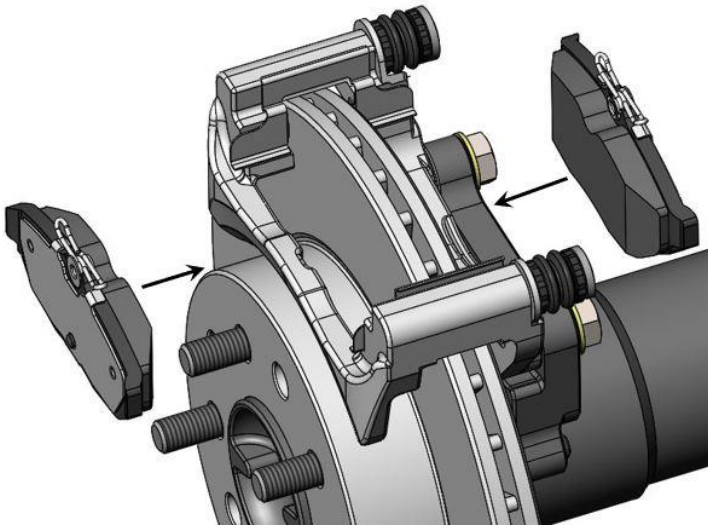
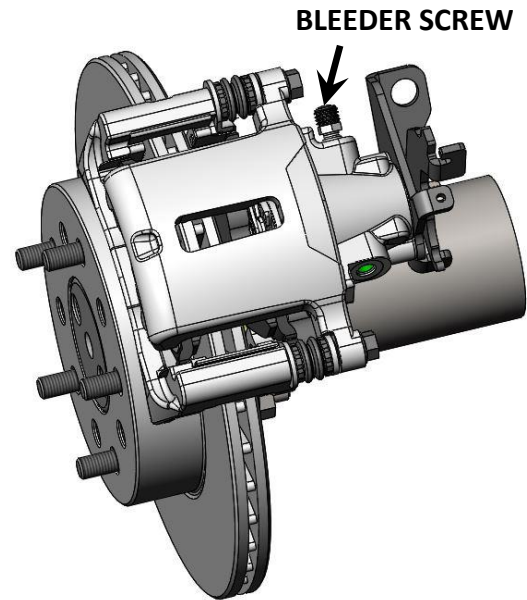

Figure 9a – Brake Pad Installation
Figure 9b - Caliper Installation and Bleeder Screw Orientation
12. With the Abutment Clips installed, Install the pads into the Caliper Anchor Bracket. Refer to Figure 9a on the next page for reference. Once the pads are installed slide the caliper body over the brake pads and Caliper Anchor Bracket. With the caliper in place, re-install the caliper mounting bolts between the caliper and the bracket. Torque the bolts to 30 lb/ft. **IMPORTANT:** Make sure that the bleeder screw is pointing upward. See Figure 9b on next page for reference on installing the caliper.